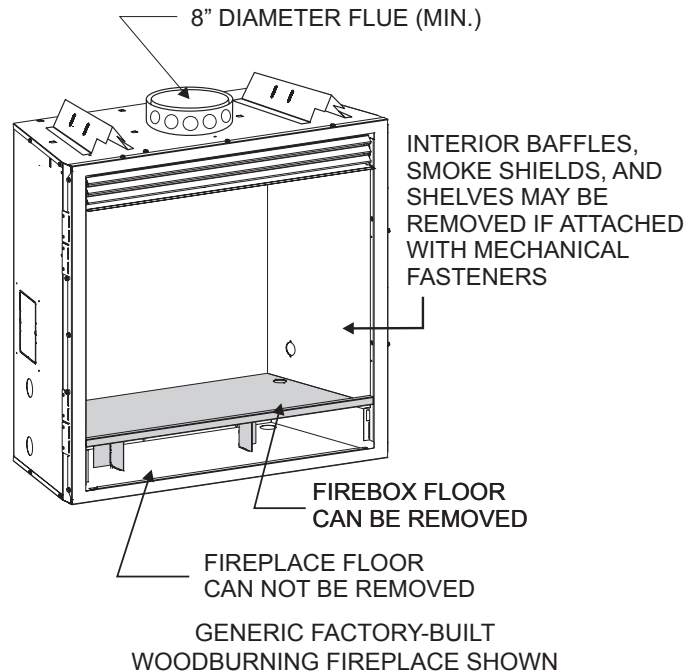

Figure 8
4. The minimum fireplace opening requirements are shown in **Page 11** of this installation manual. The firebrick (refractory), glass doors, screen rails, screen mesh and log grates can be removed from a factory built fireplace to gain minimum gas insert opening requirements prior to installing the gas fireplace insert. See Figure 8.
8. The metal floor of the solid fuel firebox may be removed to install the insert. If the firebox floor is removed, the insert must be raised off the floor of the fireplace at least 1/4 inch to protect the combustible surface under the original fireplace. Clearance to combustible material under the insert is 1/4-inch. Combustible material must not be placed inside the original area. The side walls and top structure of the firebox may not be altered with the exception of removable baffles and dampers. Fire screens, refractory liners (sides and floor), smoke shields, shelves and baffles may be removed if attached with mechanical fasteners. The original fireplace cannot be returned to solid fuel in this condition. See Figure 8.